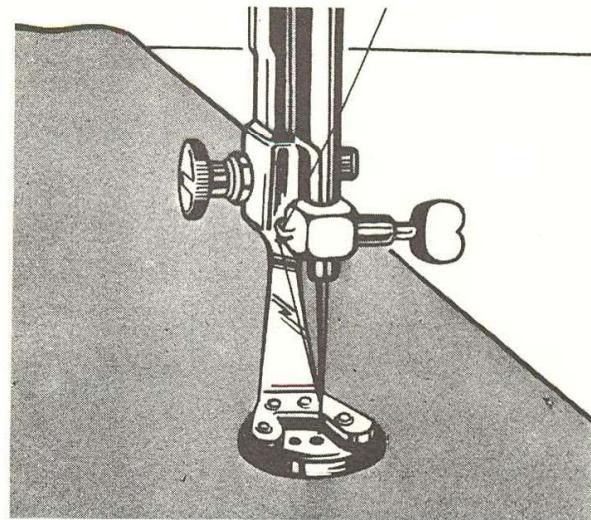

Fig. 28
1. Remove hinged presser foot and attach button sewing foot. (See Fig. 28).